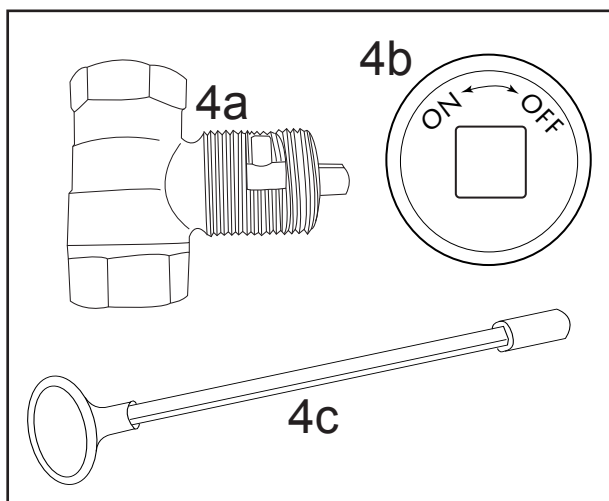

**Fig. 15** Lighting fire pit with lighter
2. Light a long match or butane lighter and hold it near the burner (see Fig. 15).